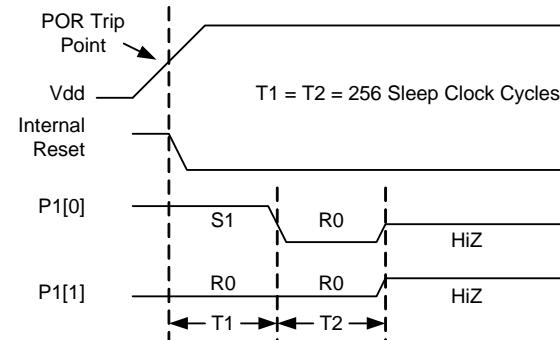
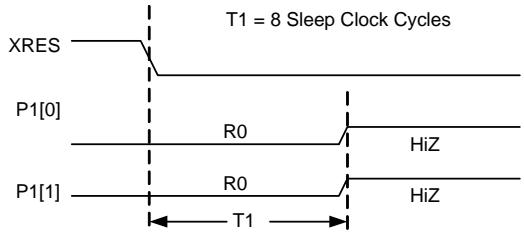

Figure 30-1. P1[1:0] Behavior on Power Up
Figure 30-2. P1[1:0] Behavior on External Reset (XRES)
Power on Reset and External Reset cause toggling on two GPIO pins, P1[0] and P1[1], as described below and illustrated in Figure 30-1 and Figure 30-2. This allows programmers to synchronize with the PSoC device. All other GPIO pins are placed in a high impedance state during and immediately following reset.
At power up, the internal POR causes P1[0] to initially drive a strong high (1) while P1[1] drives a resistive low (0). After 256 sleep oscillator cycles, the P1[0] signal transitions to a resistive low state. After additional 256 sleep oscillator clocks, both pins transition to a high impedance state and normal CPU operation begins. This is illustrated in Figure 30-1.
During External Reset (XRES=1), both P1[0] and P1[1] drive resistive low (0). After XRES deasserts, these pins continue to drive resistive low for another 8 sleep clock cycles. After this time, both pins transition to a high impedance state and normal CPU operation begins. This is illustrated in Figure 30-2.